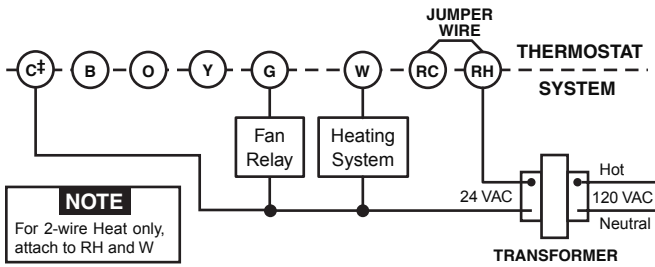

Figure 2. Typical wiring diagram for heat only, 3-wire, single transformer systems
2. Connect wires beneath terminal screws on base using appropriate wiring schematic (see fig. 2 through 7).